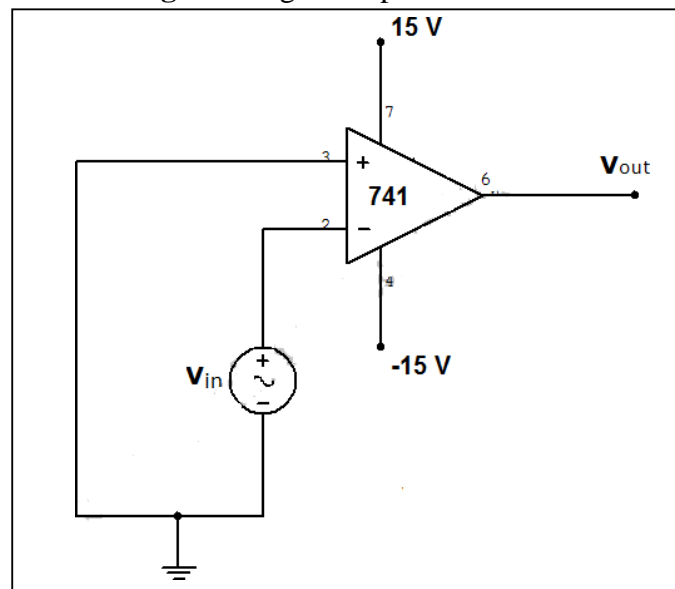

Fig 2 Zero Crossing Detector
1. Connect the circuit as shown in fig 2.